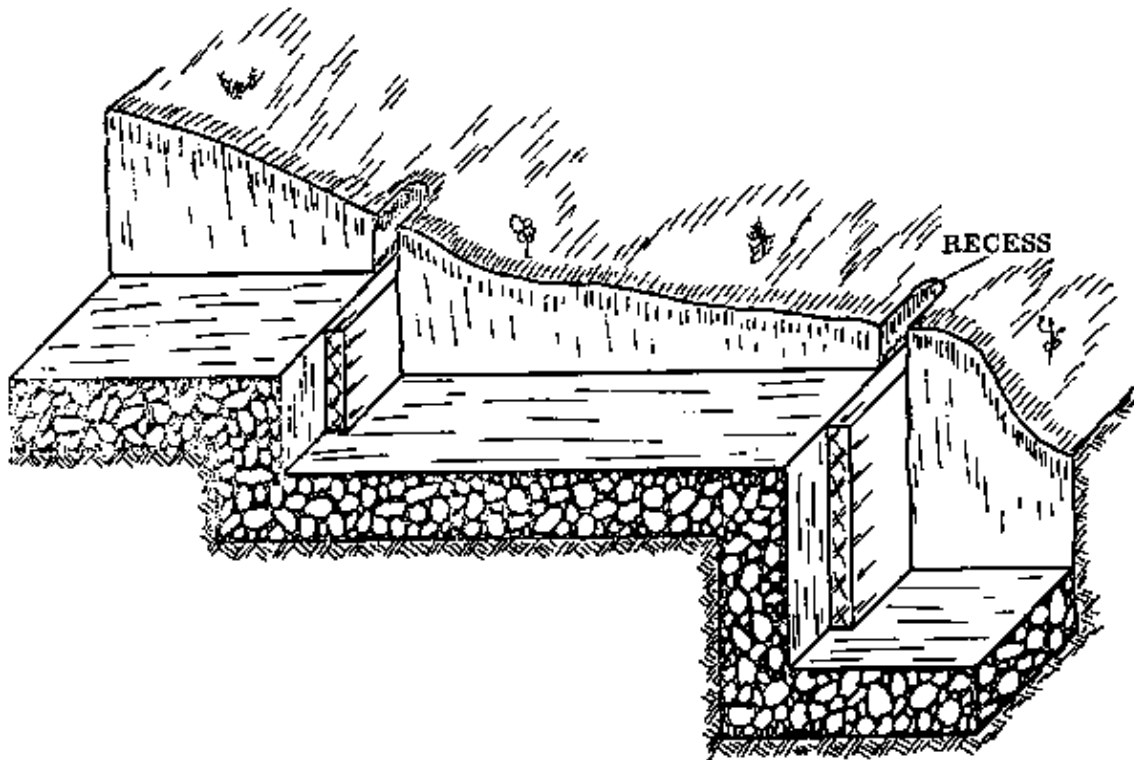

Fig. 2 CASTING A STEPPED FOUNDATION
– **STEPPED FOUNDATION:** In casting the vertical parts of a stepped foundation, pieces of board are used as shown in Fig. 2. These are fitted into recesses cut in the side of the trench. The width of the board is the same as the height of the step (Fig. 2).